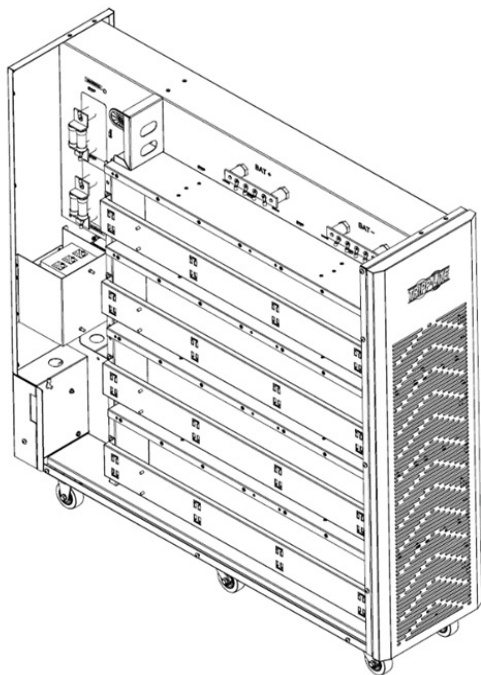

Figure 5-4A
3. Remove all screws securing the bracket rod on the left and right (Figures 5-4A and 5-4B).